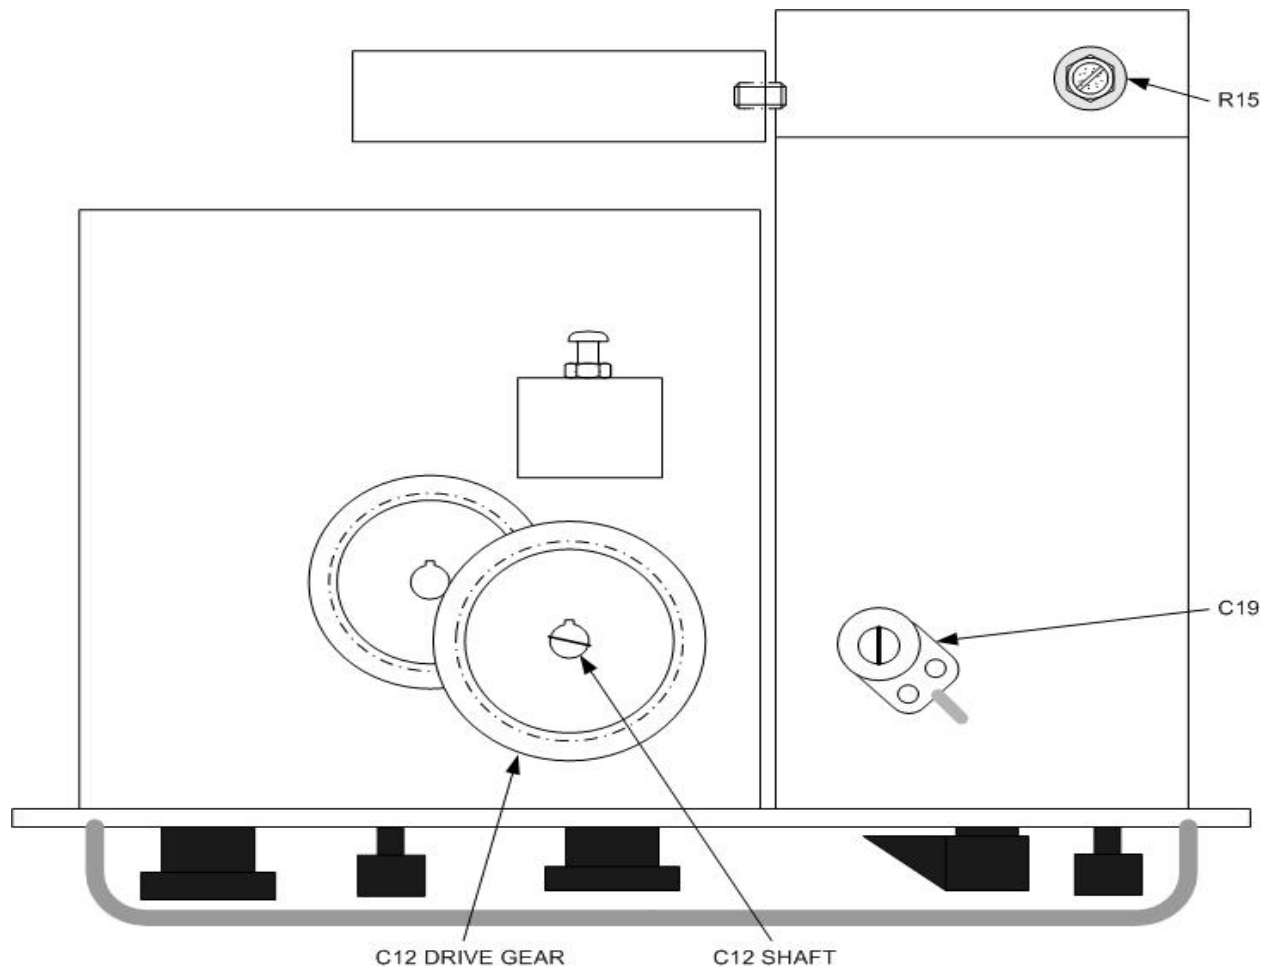

Figure 2. Right-side view - adjustment locations.
- (1) Remove dust cover from TI.
- (2) Turn rotor of C19 (fig. 2) to midrange.
- (3) Connect 100 pF capacitance standard to TI capacitance binding posts.
- (4) Turn capacitance range switch to **5 TO 100 MMF** and turn **DIAL CONTROL** to **100 μF** .
- (5) Unlock set screws of capacitors C12 (fig. 2).
- (6) Adjust C12 shaft for minimum indication on TI meter (R).
- (7) Disconnect capacitance standard from TI.
- (8) Set **DIAL CONTROL** to **0**.
- (9) Adjust C19 (fig. 2) for minimum indication on TI meter (R).
- (10) Repeat technique of (3) through (9) above until minimum indications are obtained on TI meter at both **100 μF** and **0** settings of **DIAL CONTROL**.
- (11) On opposite end of tuning indicator drum, from drive wheel's (top side), there is a screw in a curved slot. Loosen screw (R16, tuning resistor) and slide in curved slot to adjust. Repeat steps **9 a** (1) through (6).
- (2) Connect 200 M Ω terminals of resistance standard No. 4 to TI insulation resistance binding posts.
- (3) Set megohms range switch to **MEGOHMS X100** and adjust **DIAL CONTROL** for dial drum indication of 2.00 on range 1.
- (4) Adjust R15 (fig. 2) to obtain same indication on TI meter with **KEY** switch either operated or released (R).